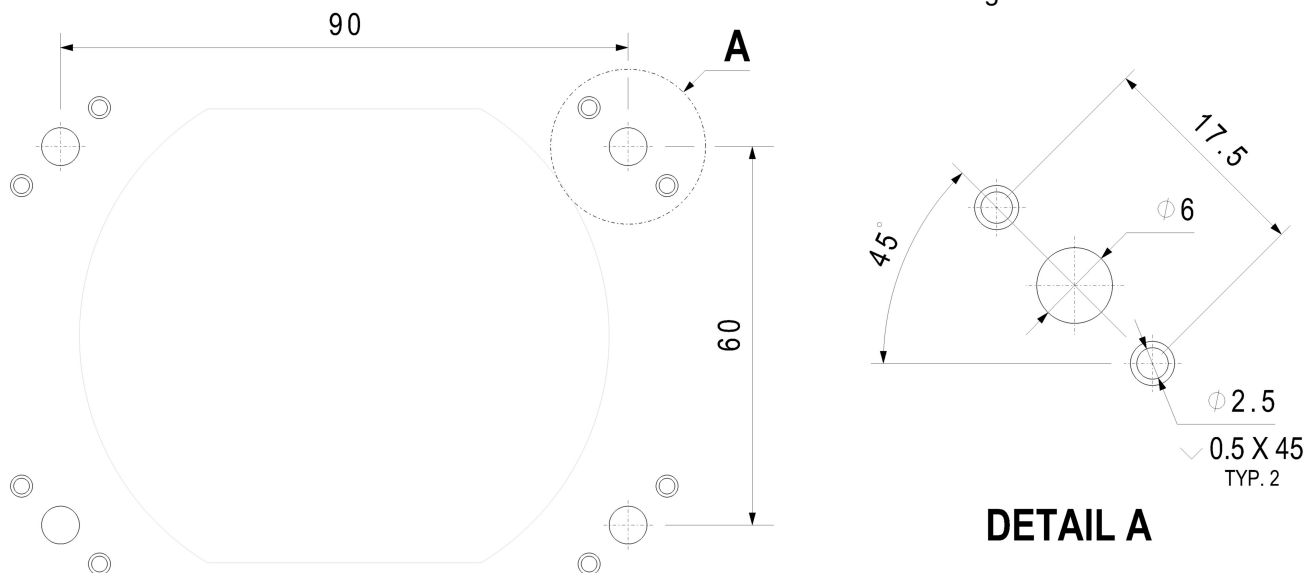

Figure 2. Hole dimensions.
B. Drill and countersink holes for the anchor nuts and rivets. Refer to Figure 2 for dimensions.